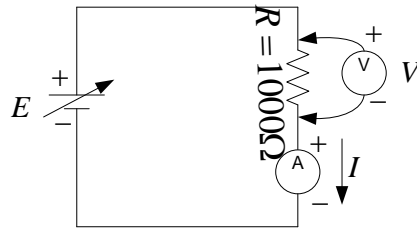

Figure 3. Circuit for experiment.
1. Theoretically calculate the values of  $I$  for the circuit of Figure 3 for  $E = 5, 6, 7, 8, 9, 10$  V and  $R = 1000\Omega$ .
2. Construct the circuit of Figure 3. Set the value of  $E$  at 5, 6, 7, 8, 9, and 10 volts and measure the corresponding  $V$  and  $I$  and record them in Table 1.